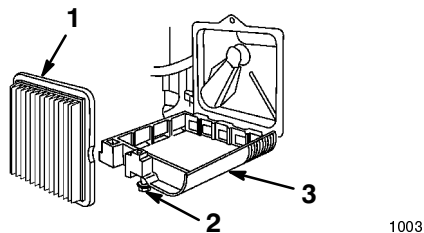

Figure 19
3. Loosen the screw that secures the air cleaner cover (Fig. 19).
4. Tilt the cover down and clean it thoroughly (Fig. 19).
5. Remove the paper air filter and discard it (Fig. 19).
6. Insert a new paper air filter (Fig. 19).